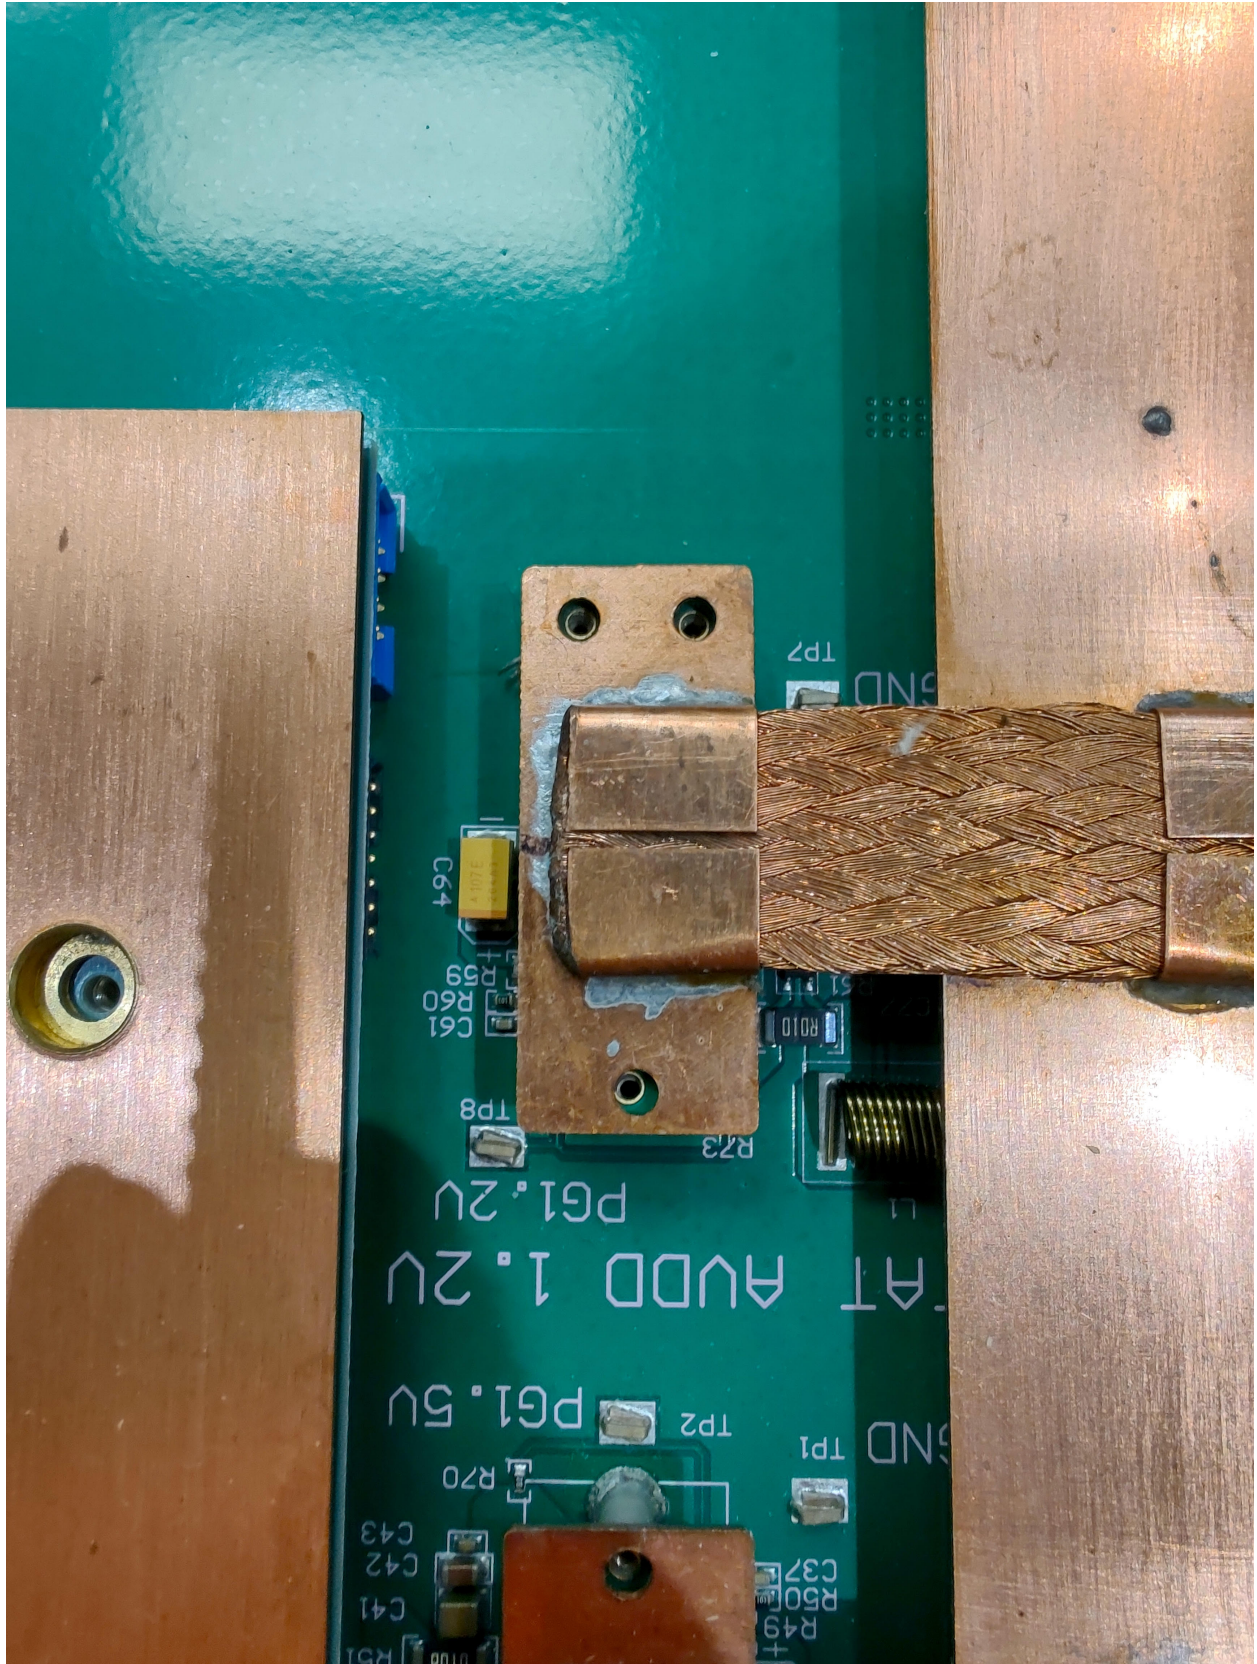
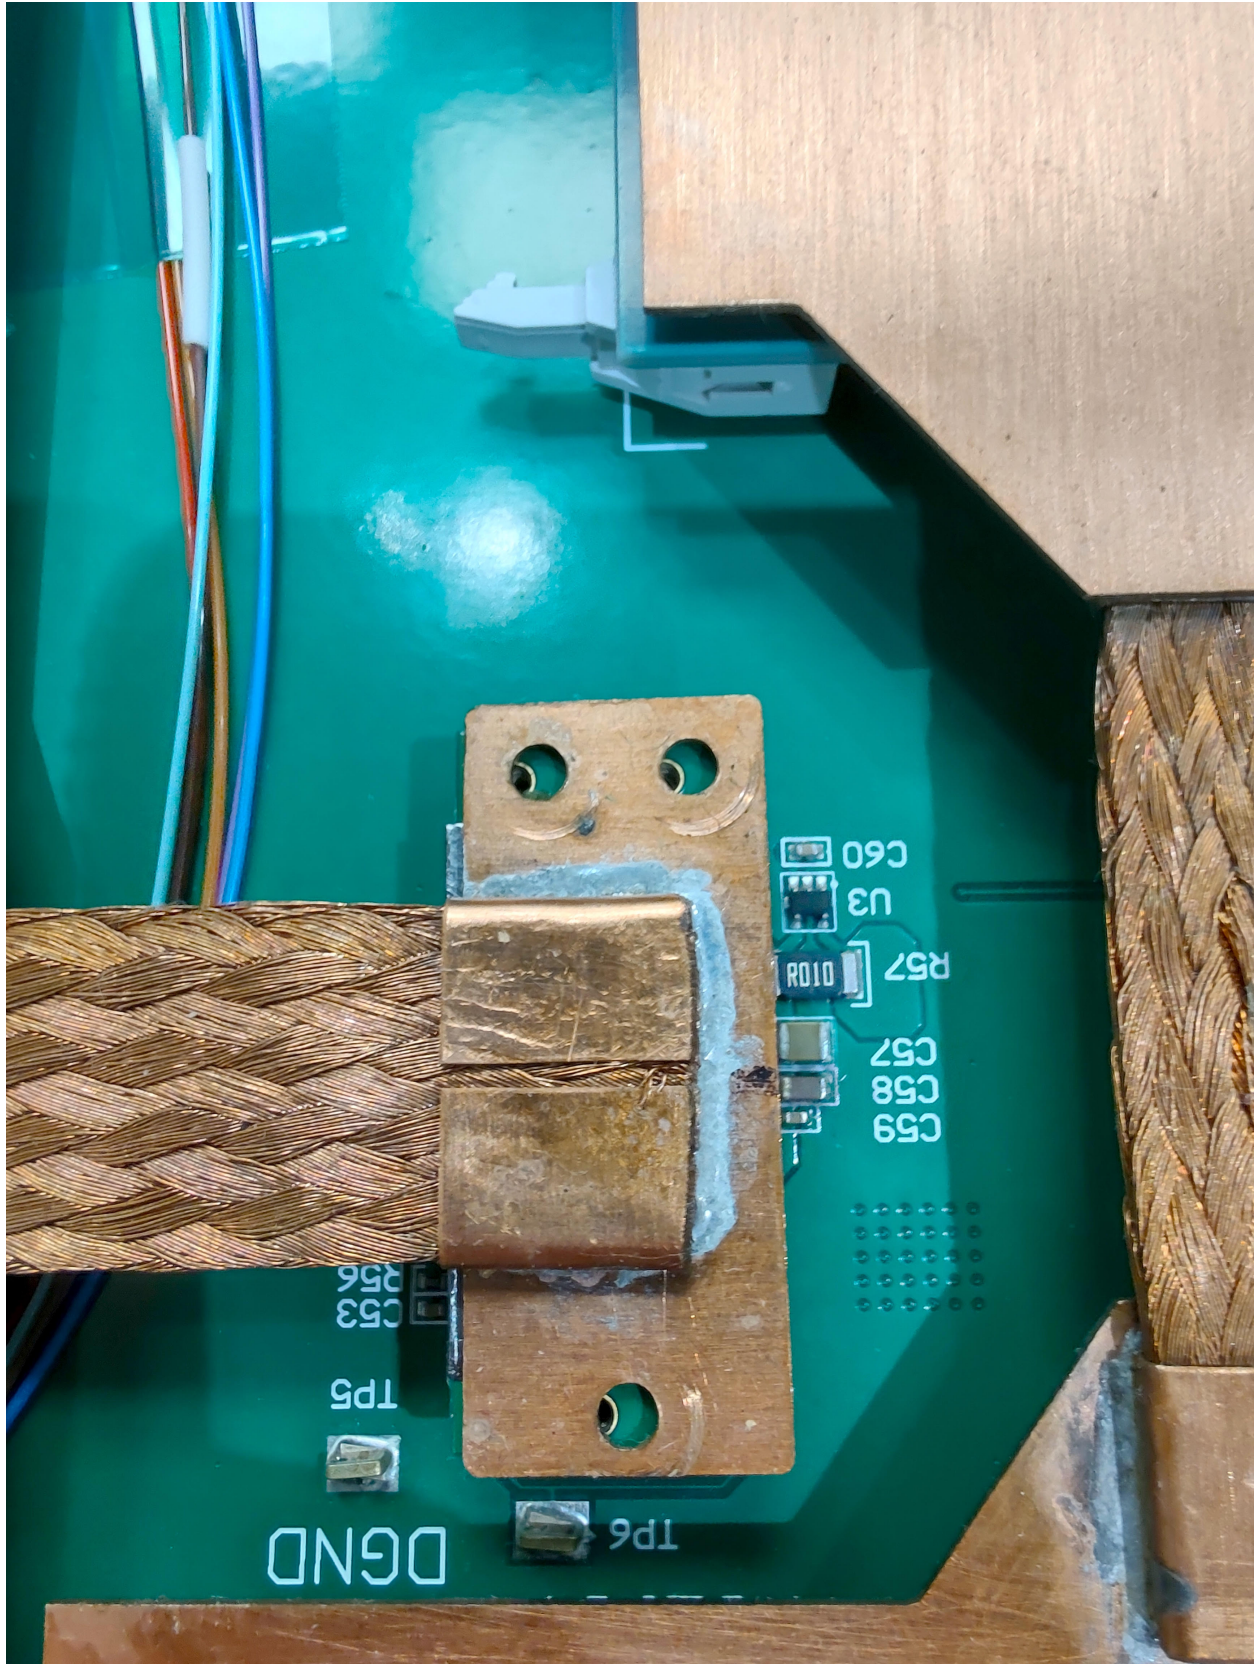

Figure 3: Example of good alignment for the FEAST cooling copper plates on one module.
Figure 4: Example of poor alignment for the FEAST cooling copper plates for the other three modules.
- There are some problems with aligning the copper plates with the FEASTs. E.g., once the copper plates for all FEASTs on one GE2/1 module are aligned (Fig. 3), all of the other copper plates for the FEASTs on other modules are misaligned (see Fig. 4).